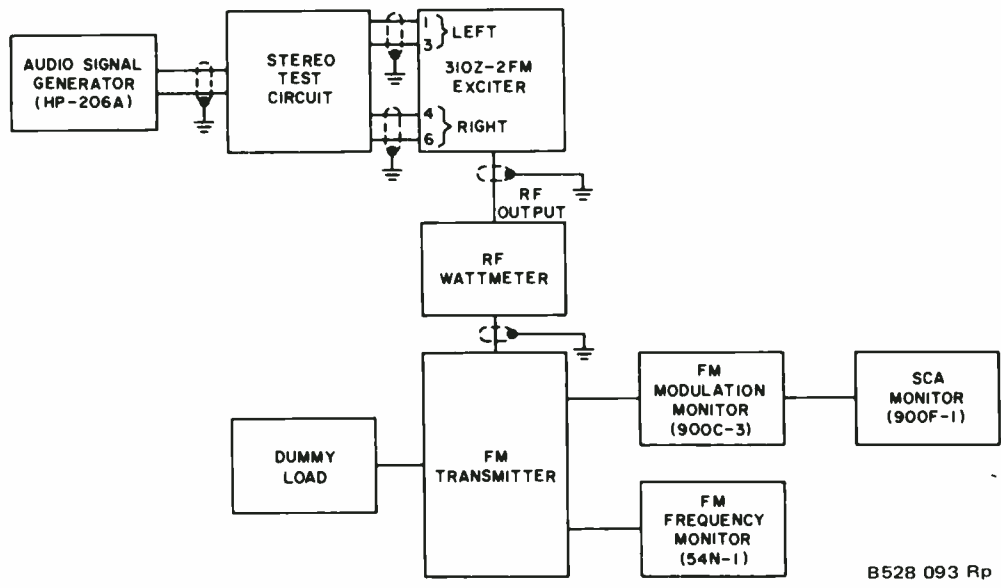

Figure 5-2. Test Equipment Connections to 310Z-2 for Adjustment and Test Procedures.
- a. Remove exciter from transmitter or equipment rack, remove rear cover, and connect equipment as shown in figures 5-2 and 5-3.
Read and understand procedures for measurement of main and subchannel audio in modulation monitor instruction manual. Connect 310Z-2 exciter as shown in figure 5-2, and set S2 to stereo mode.
- a. With equipment connected as shown in figure 5-2, set MODULATOR METER switch on FM modulation monitor to SCA MOD.
- a. With equipment connected as shown in figure 5-2, turn stereo test circuit switch to OFF.
- a. Connect equipment as shown in figure 5-2.
- a. Connect the equipment as shown in figure 5-2, and turn stereo test circuit switch to OFF.
- a. Connect the equipment as shown in figure 5-2.
- a. With the equipment connected as shown in figure 5-2, set the MOD switch on the 310Z-2 to LEFT and the stereo test circuit switch to L.
- a. With equipment connected as shown in figure 5-2, set the MODULATION switch on the 310Z-2 to STEREO and the stereo test circuit switch to LEFT.
- a. With equipment connected as shown in figure 5-2, place PILOT CARRIER switch to ON.